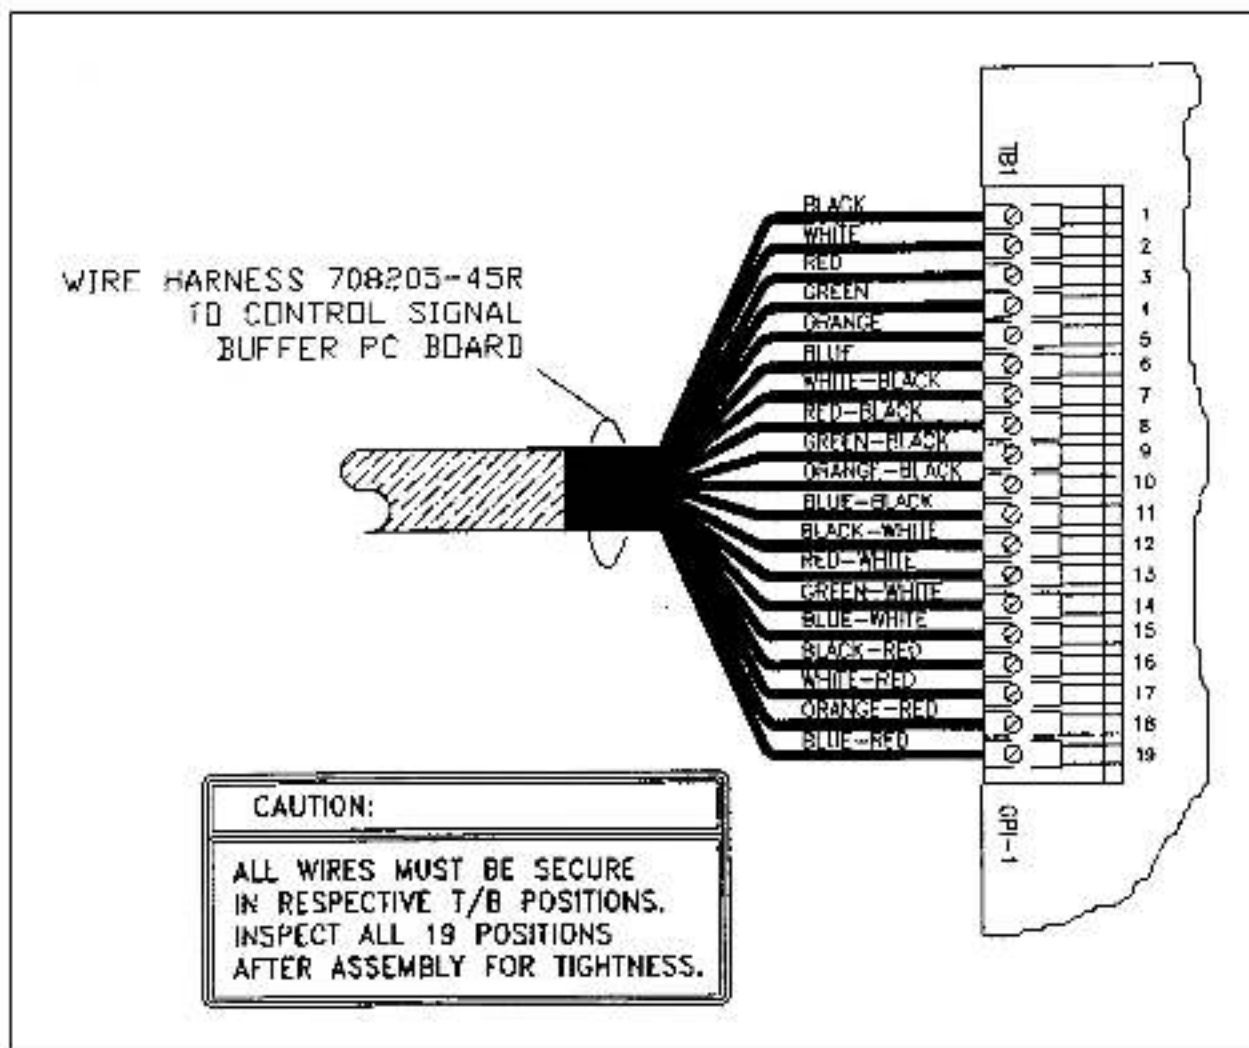

Figure 6. Control Signal Buffer PC Board to Regulator Board Wiring Locations.
5. Attach the plug end of harness 708205-45R to connector TB12 on the Control Signal Buffer PC Board (CN47). Attach the wires on the other end of the harness to Regulator Board connector 1TB. Refer to Figure 6 for wiring detail.